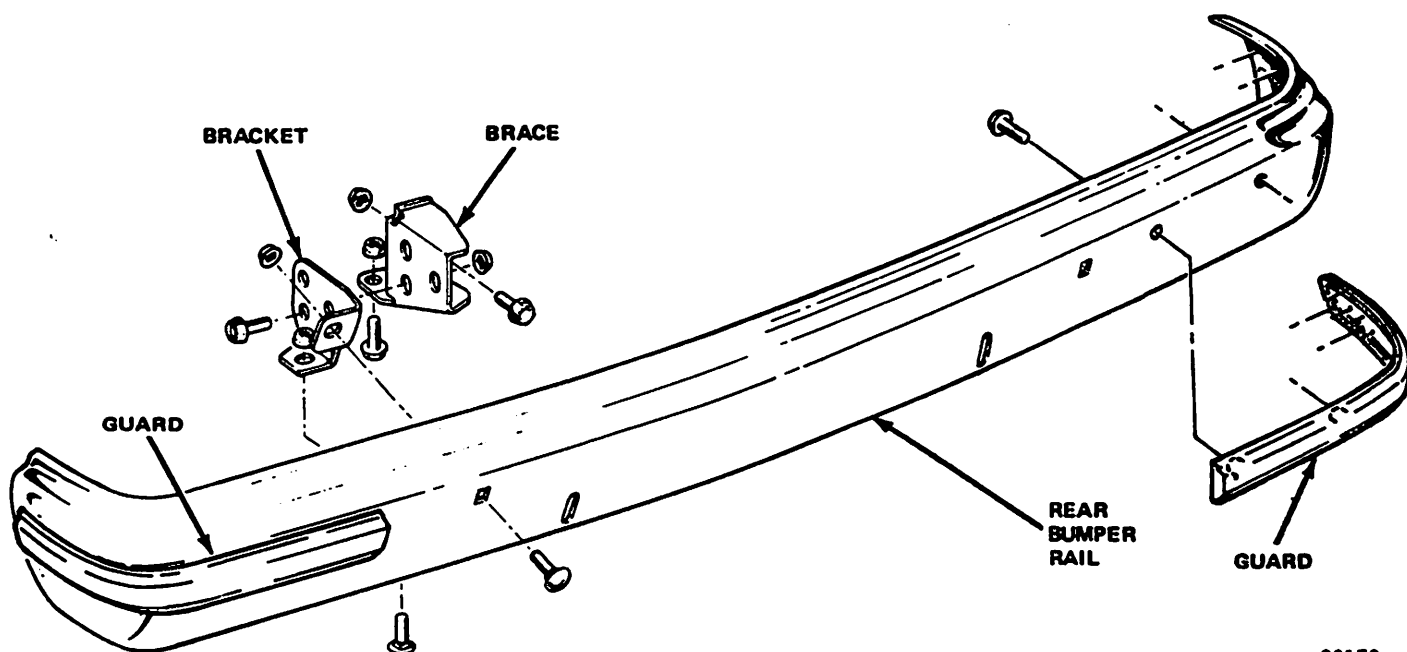

Fig. 3F-21 Rear Bumper—Cherokee-Wagoneer Models 90178
- (1) Remove bumper guards (fig. 3F-21) from bumper rail, if equipped.